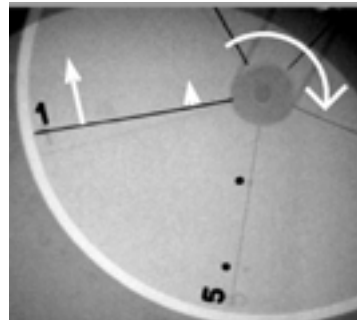

Figure 5. Motion target
- **Visibility of moving structures** A rotating spoke target allows visual evaluation of motion unsharpness and the effects of temporal averaging. The device contains five steel wires of different diameters (0.022, 0.016, 0.012, 0.009 and 0.005 inches or 0.56, 0.41, 0.30, 0.23, 0.13 mm). Two lead dots are used to evaluate lag and recursive filtering. Rotation speed is 30 revolutions/min. The linear velocity of the outer lead dot is 200 mm/sec. The rotating disk replaces the central test plate at the isocenter. See Figure 5.